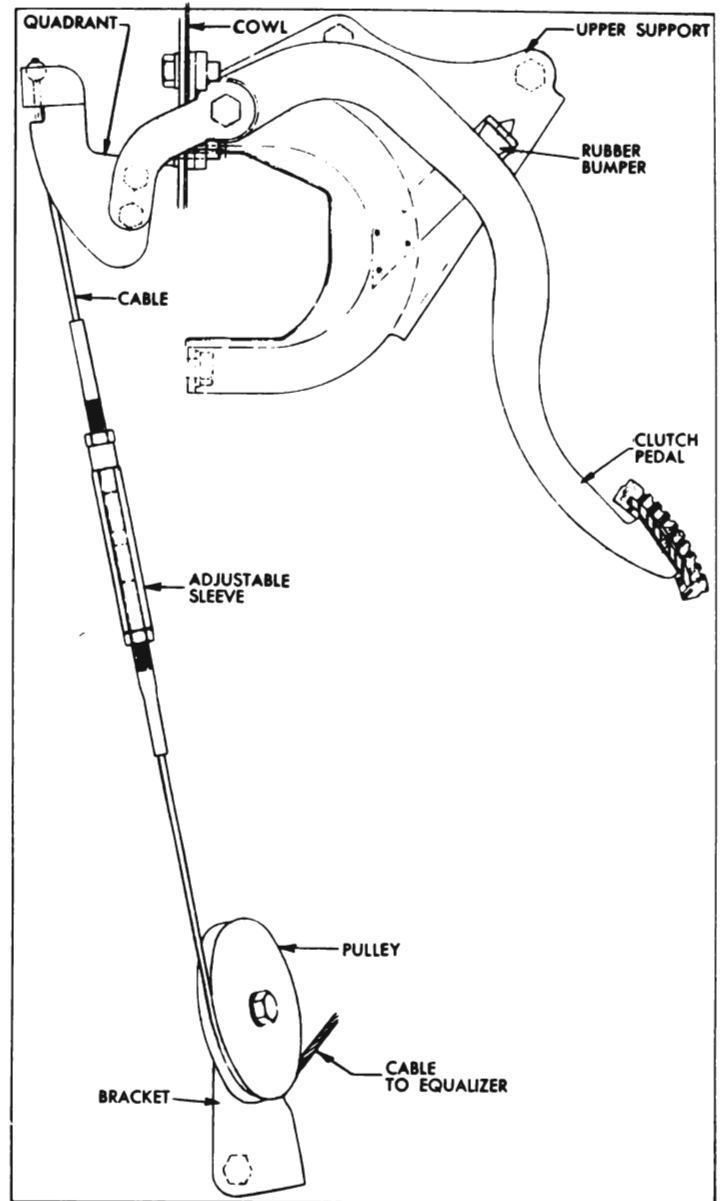

Figure 4-3—Upper Clutch Release Mechanism (from Side)
adjustable bumper support. The portion of the pedal beyond the pivot projects through the cowl where a cable quadrant is bolted to it. As the pedal is depressed, the cable quadrant and cable are raised, causing a release equalizer to turn. See figure 4-3. This rotation of the equalizer pulls the clutch release rod to the rear which in turn pulls the clutch yoke rearward to disengage the clutch.
3. Before changing cable length, first check cable pulley for alignment with both upper and lower portions of cable. If pulley is not aligned, loosen mounting bolts slightly and align. Tighten bolts securely. See figure 4-3.